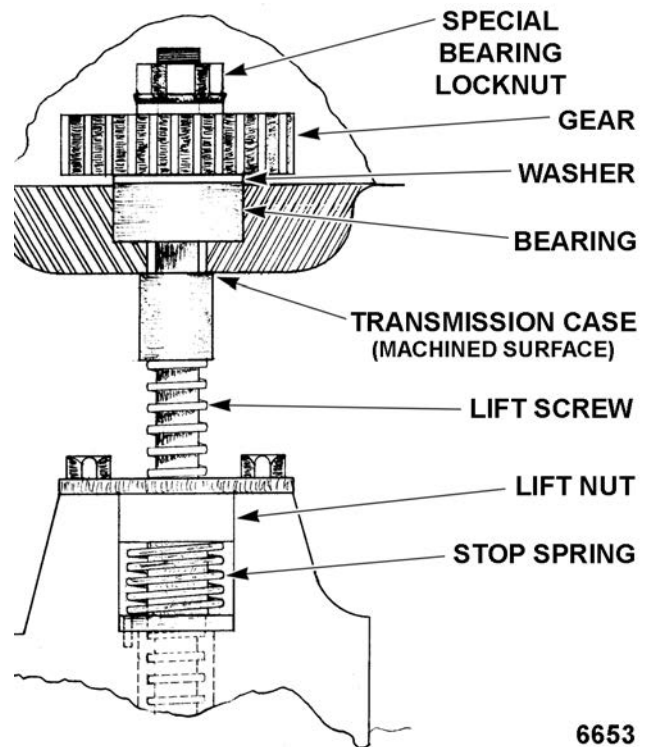

Fig. 144
NOTE: Refer to Fig. 144. The end play adjustment is provided by the locknut located on the top of the lift screw. The upward thrust is taken by the shoulder on the screw shaft. Downward thrust is taken by the bearing. A minimum of 0.005" end play should be
4. Holding the handwheel to prevent the lift screw from turning, adjust the locknut Fig. 144 to get 0.005" clearance between the shoulder and the machined surface of the transmission case.